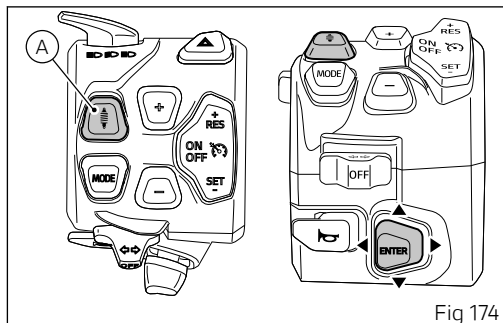

Fig 174
- Press button (A, Fig 174) to activate the specific menu.